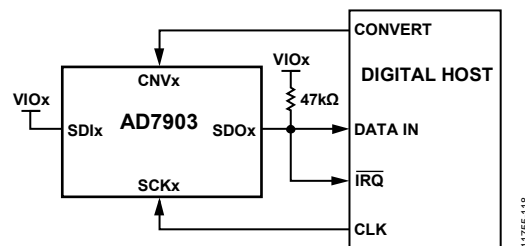
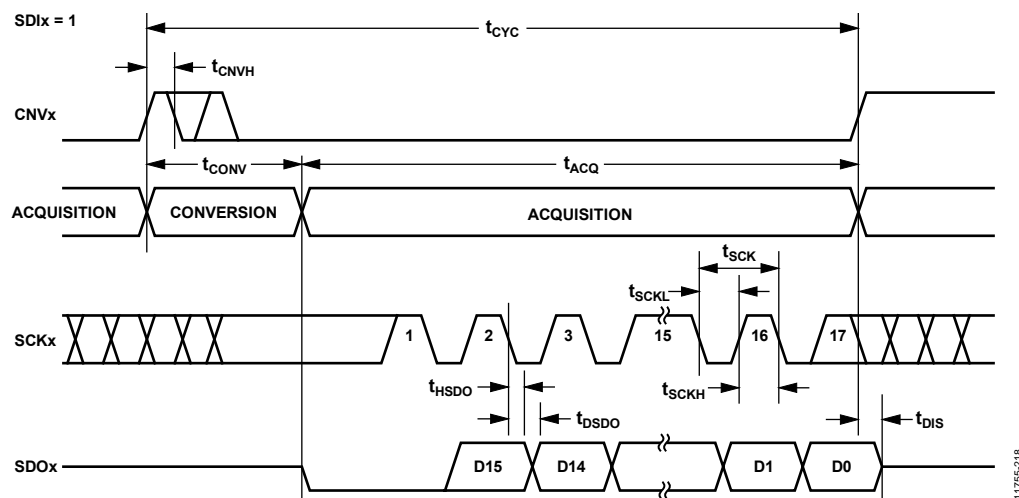
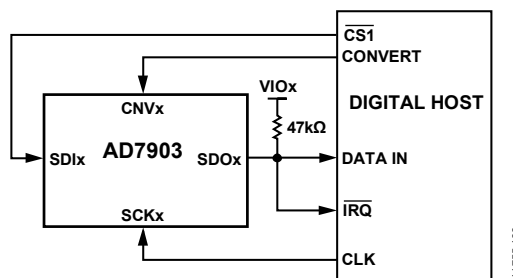
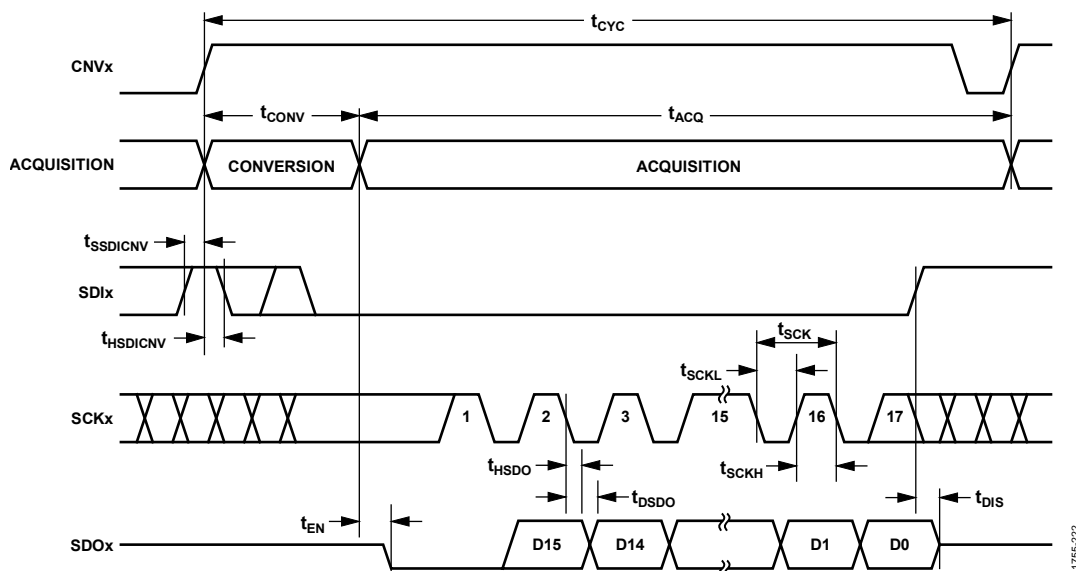

Figure 41. $\overline{\text{CS}}$ Mode, 3-Wire Interface with Busy Indicator Connection Diagram (SDIx High)
Figure 42. $\overline{\text{CS}}$ Mode, 3-Wire Interface with Busy Indicator Serial Interface Timing (SDIx High)
Figure 45. $\overline{\text{CS}}$ Mode, 4-Wire Interface with Busy Indicator Connection Diagram
Figure 46. $\overline{\text{CS}}$ Mode, 4-Wire Interface with Busy Indicator Serial Interface Timing
- In \overline{CS} mode if CNVx or SDIx is low when the ADC conversion ends (see Figure 42 and Figure 46).
The connection diagram is shown in Figure 41, and the corresponding timing is shown in Figure 42.
The connection diagram is shown in Figure 45, and the corresponding timing is given in Figure 46.